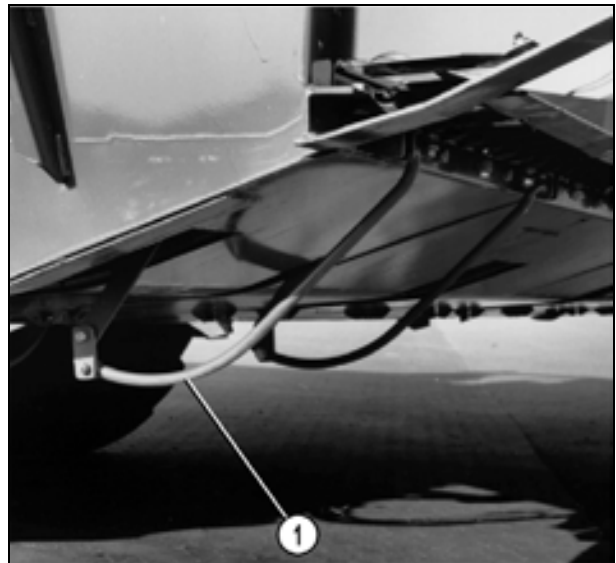

Fig. 121
Cutting height control is suitable for harvesting standing crops. When engaged, cutting height control will take over control of the table allowing it to follow the ground at the preset height. The clearance between table and ground is measured by the ground sensors (1) (Fig. 121).